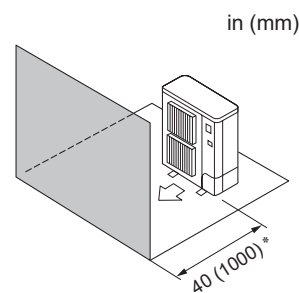

Fig. 2-8
- ④ Obstacles at front (Fig. 2-8)